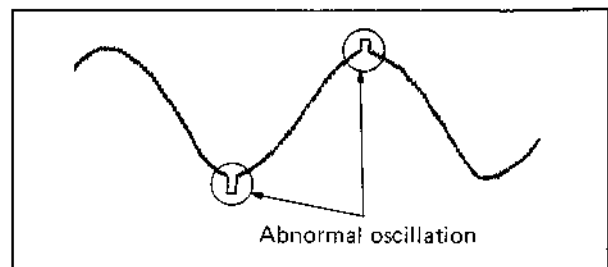

Fig. 5-11 Abnormal oscillation
3. Check for DC voltage of approx. 7 V and confirm absence of abnormal oscillation. See Fig. 5-11.